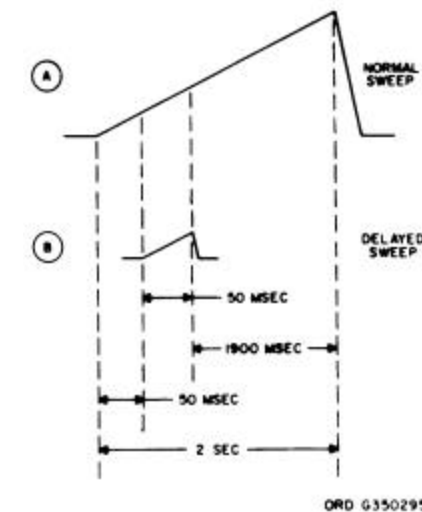

Figure 3-10. Comparison of normal sweep to delayed sweep.
(1) In this mode, the bright segment of the CRT display in the triggered-strobe mode is expanded to cover the full screen. The amount of expansion is proportional to the ratio of the normal sweep rate to the delayed sweep rate.
(2) With the DELAY LOGIC switch set at TRIG-DLY'D, the delayed sawtooth generator output, rather than the normal sawtooth generator output, is sent to the horizontal deflection amplifier. The circuitry described in paragraph a above for the triggered-strobe mode is also used in the triggered-delayed mode. The circuits operate in exactly the same way except that in this mode the strobe circuit is deactivated and has no effect on the CRT display.
(3) In addition, when the delayed sweep is completed, the normal sweep is automatically terminated. This increases its duty cycle to the optimum value. As an example, suppose the normal sweep is 2 seconds long; the delayed sweep is 50 milliseconds; and the time (delay) until the delayed sweep starts is 50 milliseconds, as shown in figure 3-10 (a) and (b). You can see, if the normal sweep isn't terminated at the completion of the delayed sweep, we will have to wait approximately 2 seconds (1950 milliseconds) before we can again observe a display on the CRT screen. This is undesirable since it doesn't permit continuous display of the signal on the CRT screen.
(4) To make sure the display is continuous, the positive output of the delayed-sweep gate multivibrator triggers the normal-sweep gate multivibrator to its initial operating state. The positive-gate output of the delayed-sweep gate multivibrator is differentiated by RC network C8216, R8217 (zone A9). Diode CR8202 passes only the negative pulse (representing the trailing edge of the positive gate and the end of the delayed sweep), which triggers the normal-sweep gate multivibrator to its initial operating state.